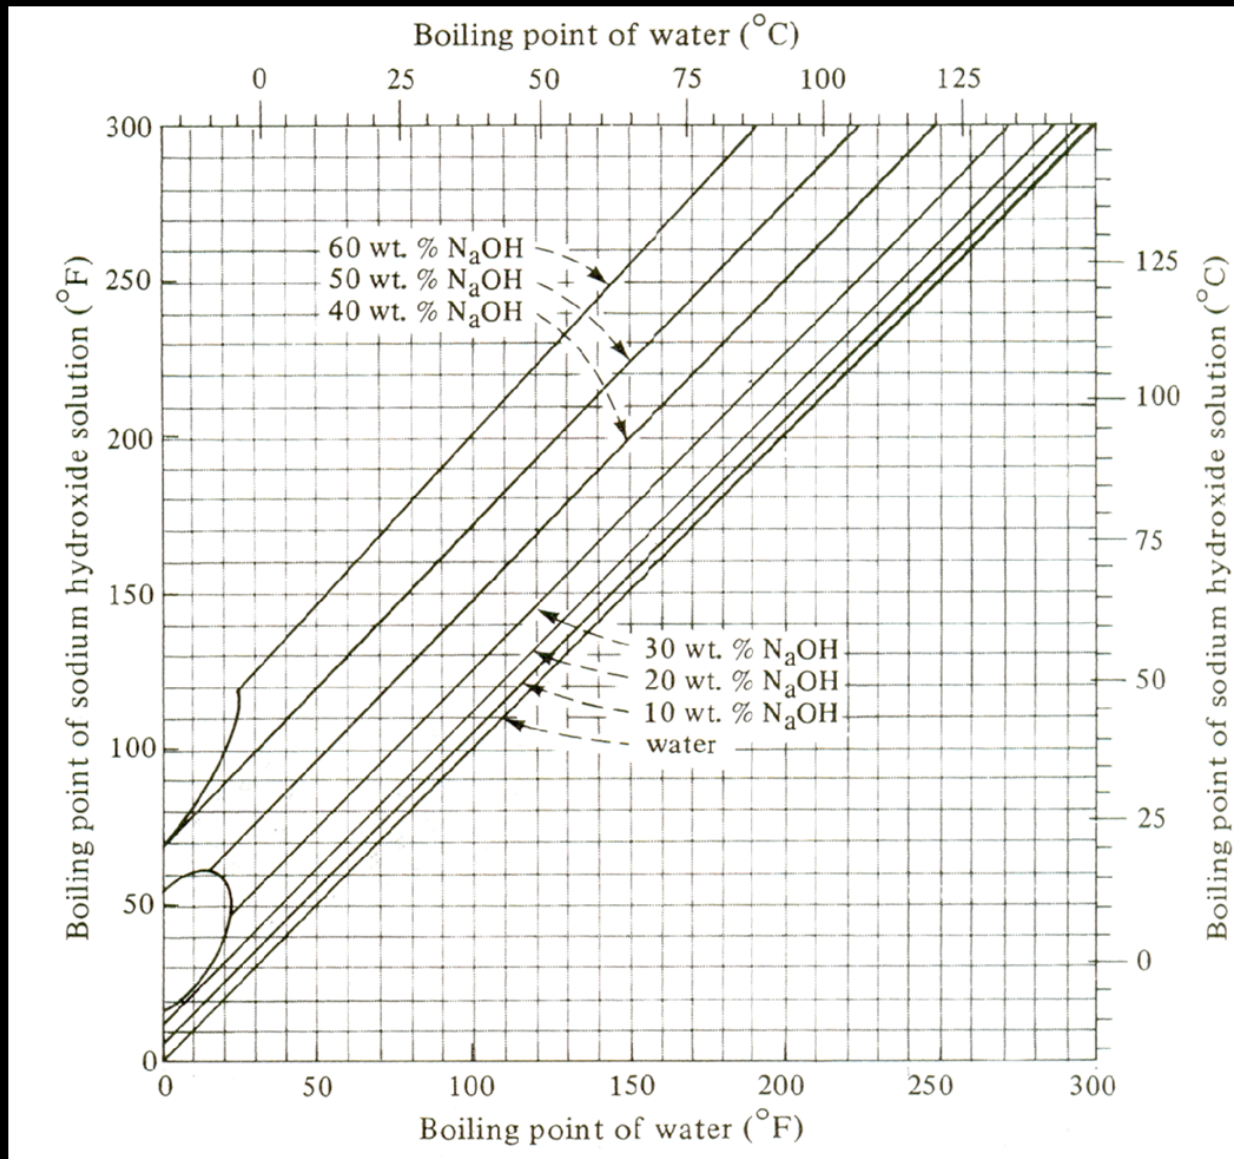

Figure 20: *Dühring's* plot for aqueous $NaOH$ solution.
Step 2: Using the *Dühring's* plot (Fig. 20), for BP of water
- Using the *Dühring's* plot (Fig. 20), for BP of water 40°C and NaOH concentration 65%, T_1 can be obtained as